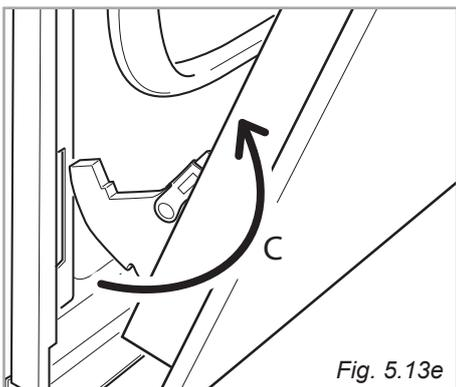

Fig. 5.13e
- Withdraw the hinge hooks from their location following arrow "C" (fig. 5.13e).